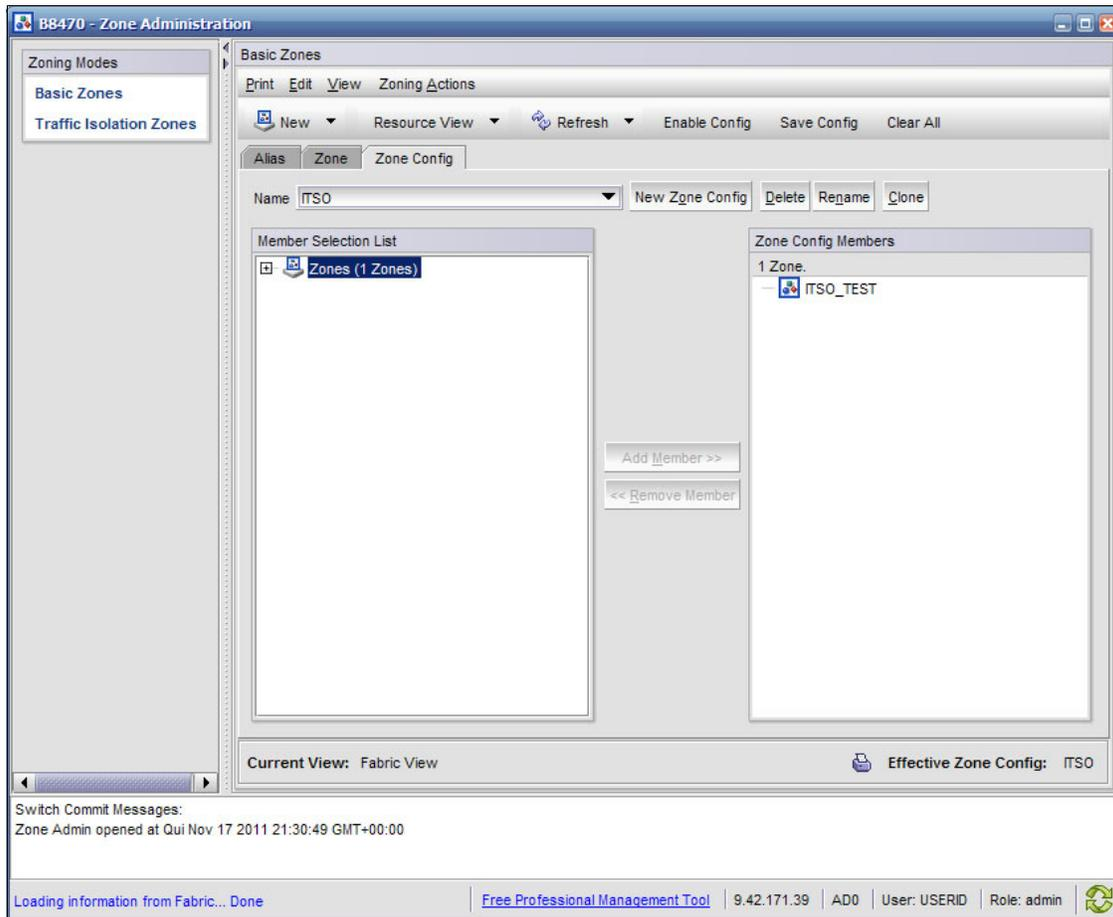

Figure 10-138 Zone Config page in the Zone Administration window
- a. On the **Zone Config** tab (Figure 10-138), click **New Zone config**.